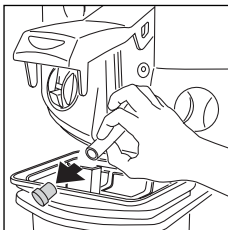

fig. 17
6. Extract drainage hose, remove cap while at the same time squeezing the hose between two fingers to avoid the liquid coming out until it has been positioned above the filter (see fig. 17).